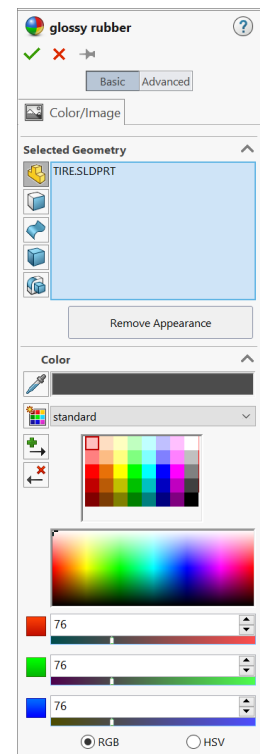

Fig. 22
Step 3. In the Appearances Property Manager click OK , Fig. 22.